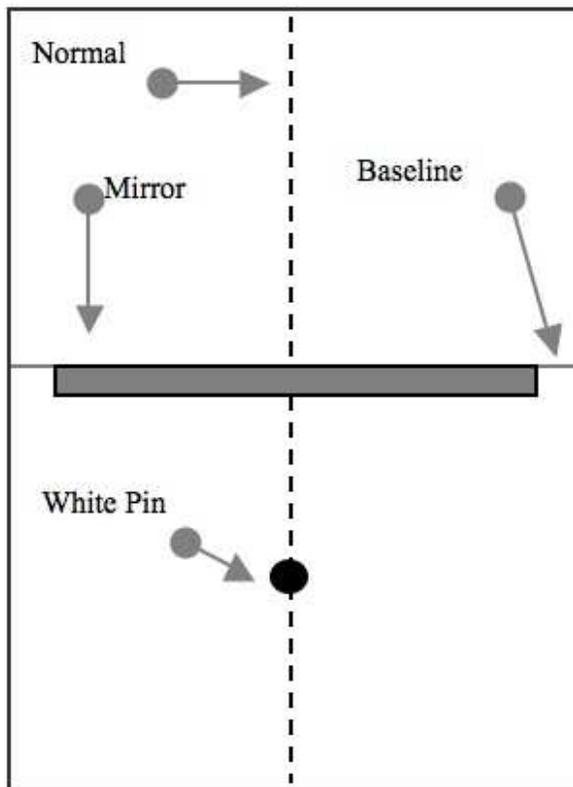

Figure 21.6: Parallax
7. Refer to Fig. 21.6. Draw a line across the center of a sheet of paper (baseline) and a line normal to the baseline down the center of the paper.